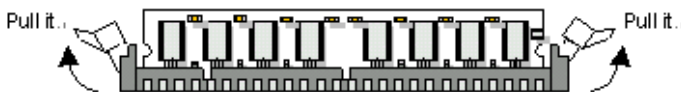

Figure 5: Memory Installation
1. Check and confirm that the jumpers are correctly set for the CPU you are going to install (figure 5).
DIMMs have 168-pins and two notches, that will match with the onboard DIMM socket. DIMM modules are installed by placing the chip firmly into the socket at a 90-degree angle and pressing straight down (figure 5) until it fits tightly into the DIMM socket.